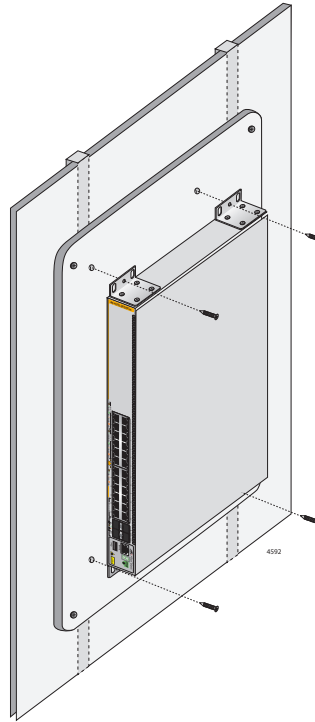

Figure 39. Installing the Switch on the Plywood Base
2. Install the switch on the plywood base. Refer to Figure 39.